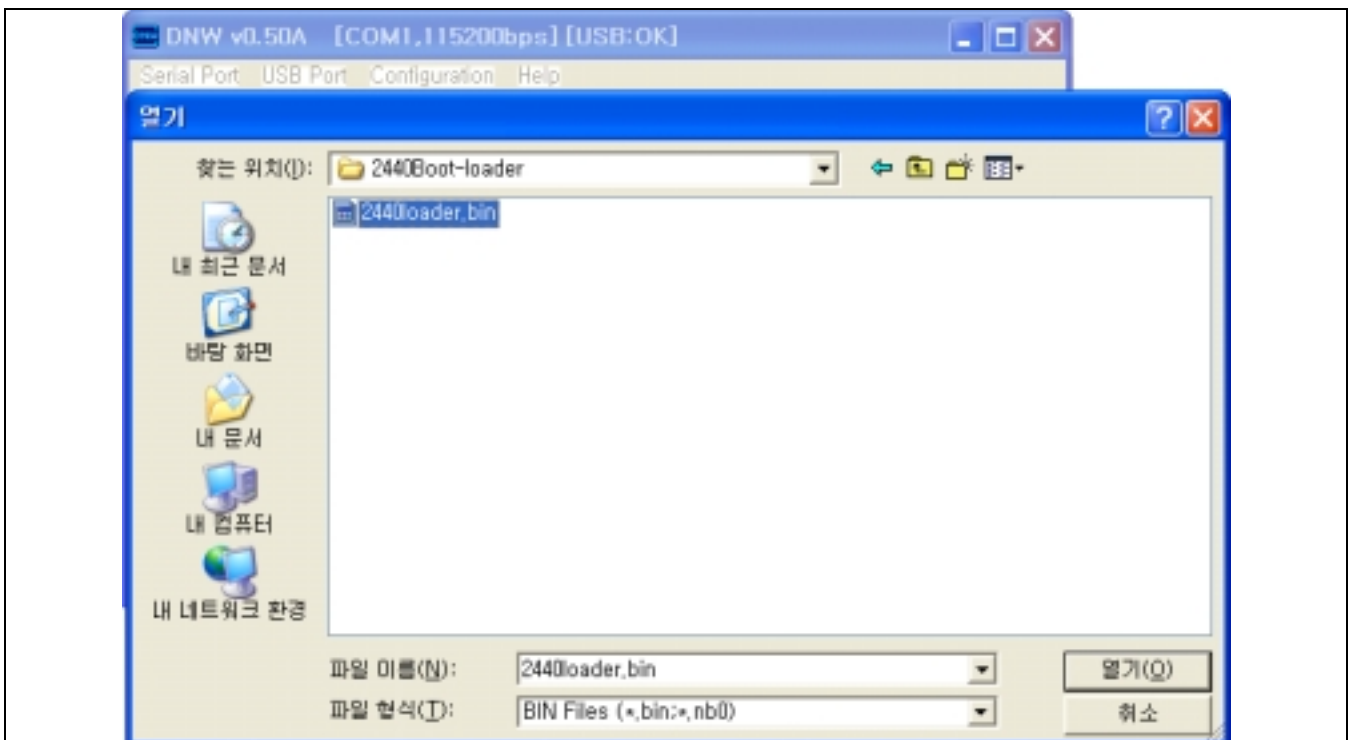

Figure 3-8. DNW Window (File Open Dialog Box)
8. Select a target image on file open dialog box (See Figure 3-8).